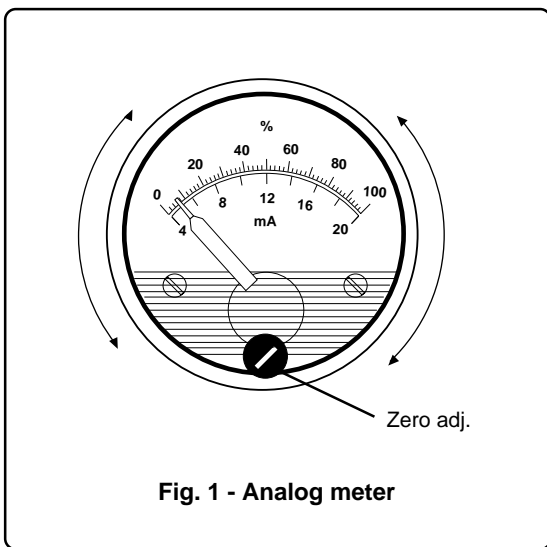

Fig. 1 - Analog meter
This option provides four different indications (meters) inside the transmitter housing. Three meters, "output meters", can be mounted on the terminal block (field terminals) side; the first is of "analog" type, the second is of "digital" type (LCD, 3 1/2 -digit) and the third is the CoMeter. All are operated by the output signal of the transmitter. The fourth meter, "integral digital display", is mounted on the electronics side: it is of "digital" type (LCD, 4-digit), microprocessor driven. The integral digital display has 4 different mounting positions. The analog meters can be rotated to exactly match the mounting position of the transmitter (see Figs. 1, 2, 3 and 5).
The calibration of the analog type meter only involves zeroing. Fig. 1 shows the analog output meter and the location of the zero adjustment.
- with the loop unpowered adjust the zero screw to read exactly the **true zero** mark on the scale (Fig. 1).